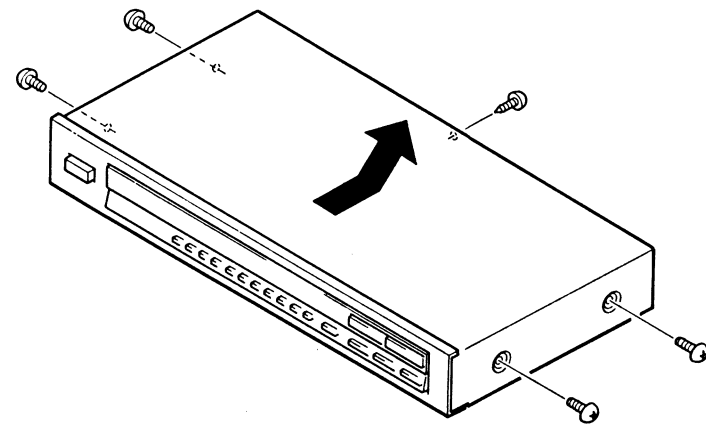

Fig. 6
1. How to remove the top cover (Fig. 6)